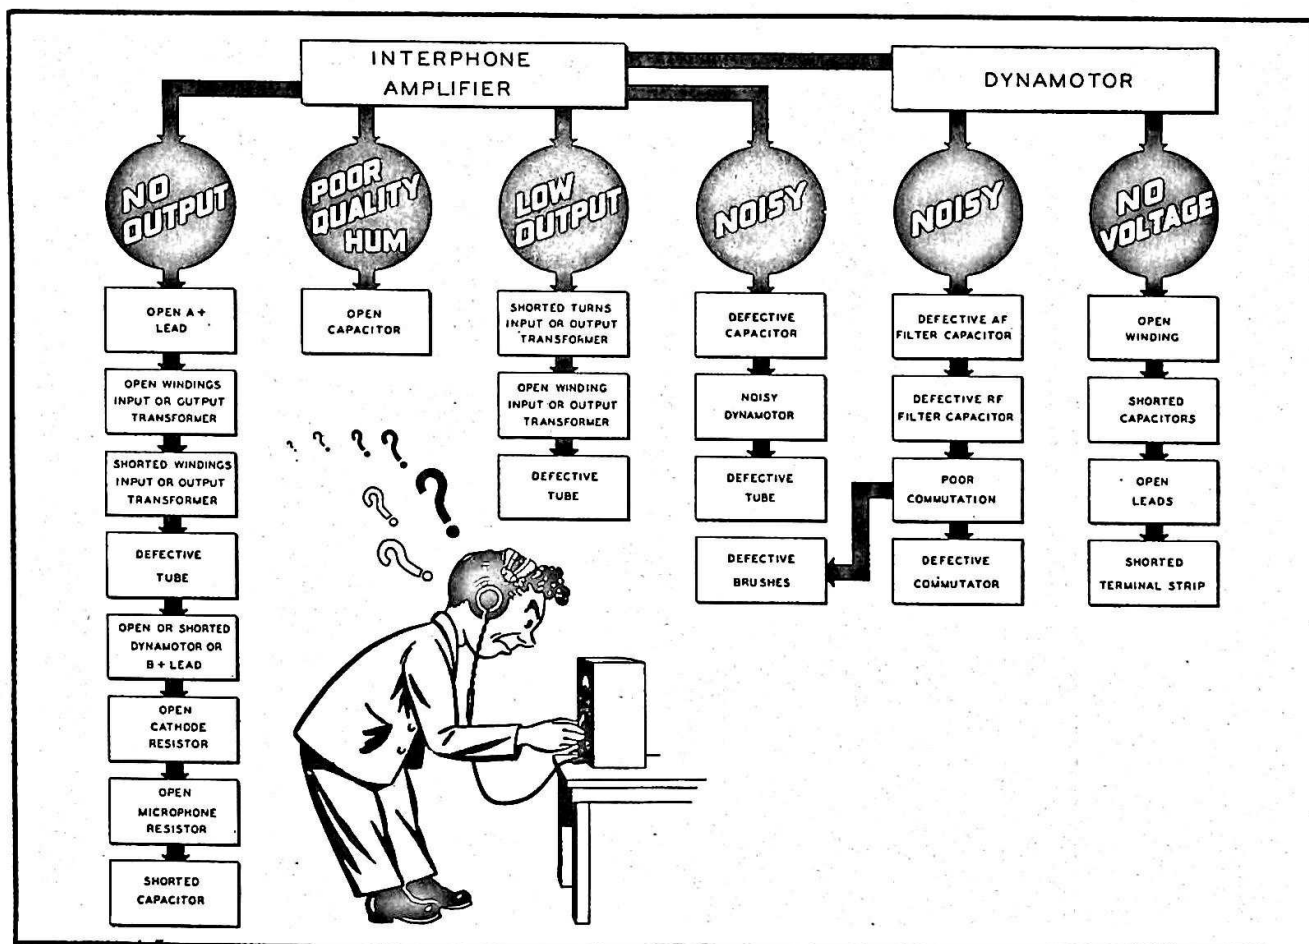

Figure 1-17. Interphone Equipment Trouble-Shooting Chart
c. The trouble and remedy chart, figure 1-17, indicates some of the possible faults in the interphone amplifier and dynamotor unit, and the probable causes.